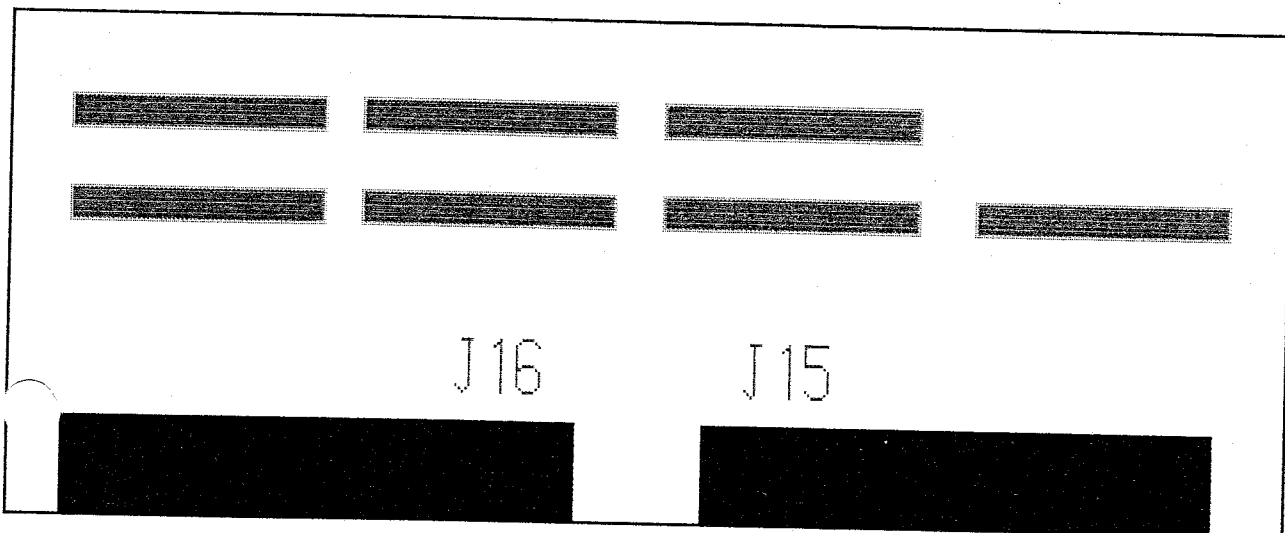

Figure 2, The Terminator Board
- 2) Terminator Board (Figure 2)
The Terminator Board, shown in Figure 2, ensures that proper signals are returned on the bus. The Terminator Board has two female connectors, labeled J15 and J16, which connect to J13 and J14 of the Motherboard.